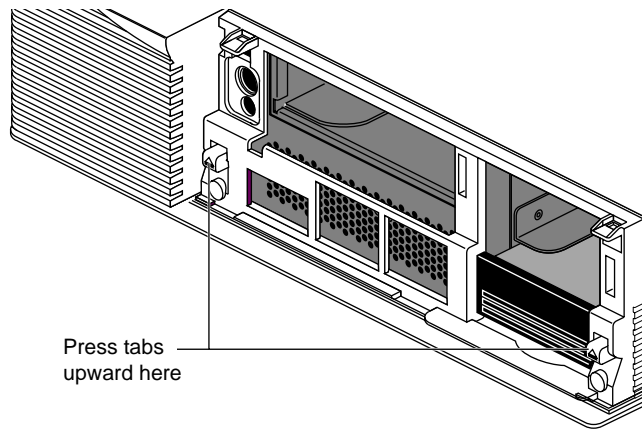

Figure 3-5 Releasing the Top Cover
- Press up on the tabs on each side of the drive openings, as shown in Figure 3-5.